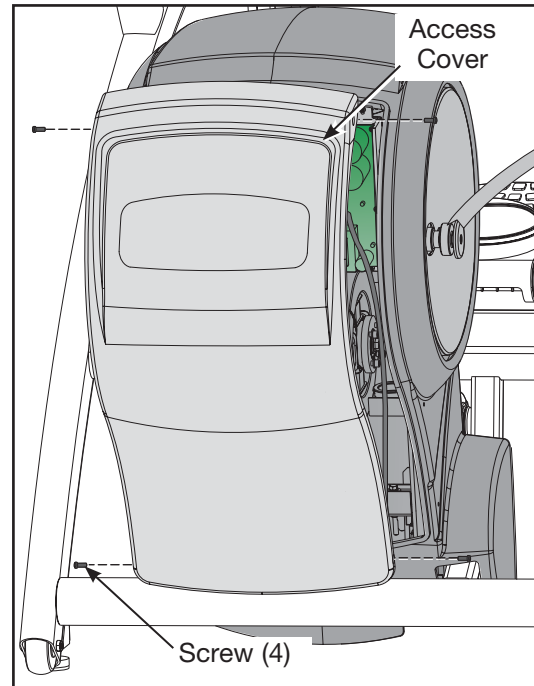

Figure 2
B. Remove the two upper screws securing the access cover. See Figure 2.
B. Tighten the two lower screws, removed in step 3A. **NOTE: Do not over tighten screws.** See Figure 2.